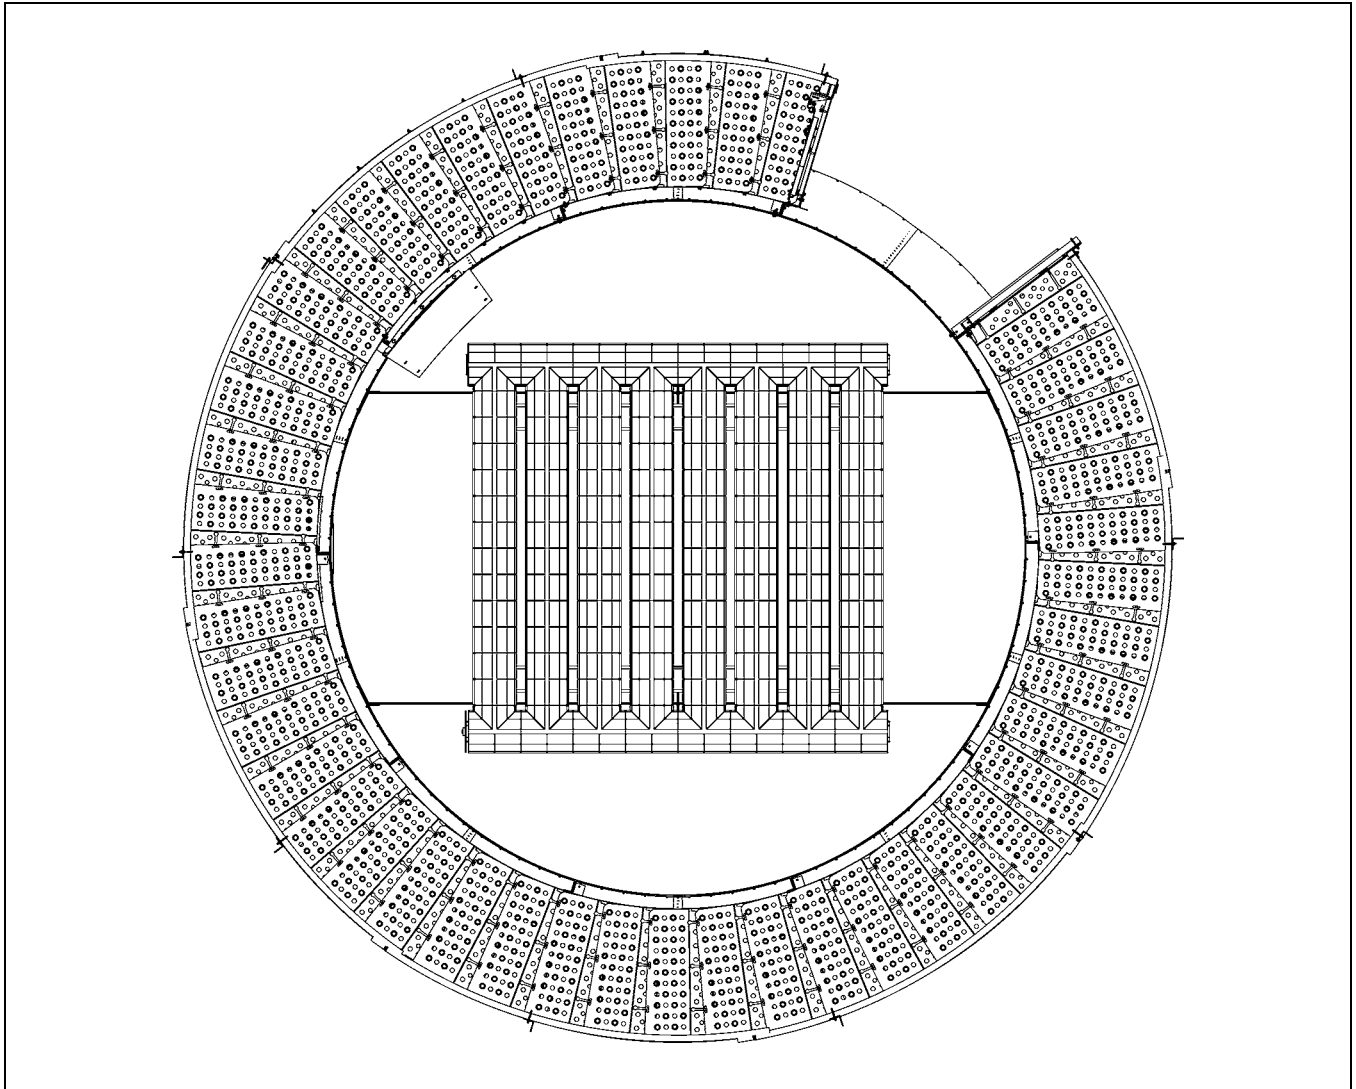

Figure 2D Top View
7. Assemble remainder of can, burner and reducer, making sure to orient the burner, so that the igniter and flame sensor are near the access door. (See Figure 2D.)